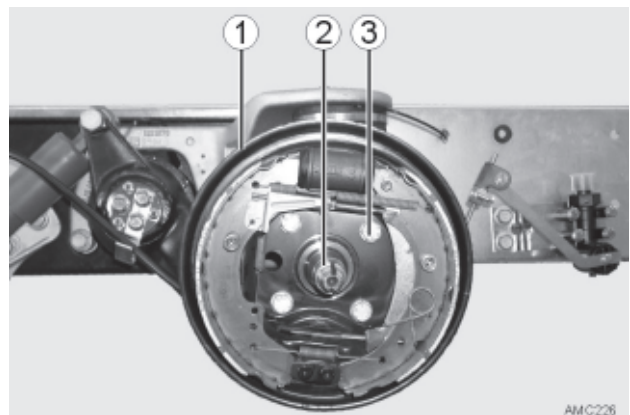

Fig. 50
18. Dismantle the back plate (Fig 50 - 1), as well as the stub axle (Fig 50 - 2) as per assembly instructions from the basic vehicle manufacturer.
M14x1.5x55 screws (Fig 50 - 3):